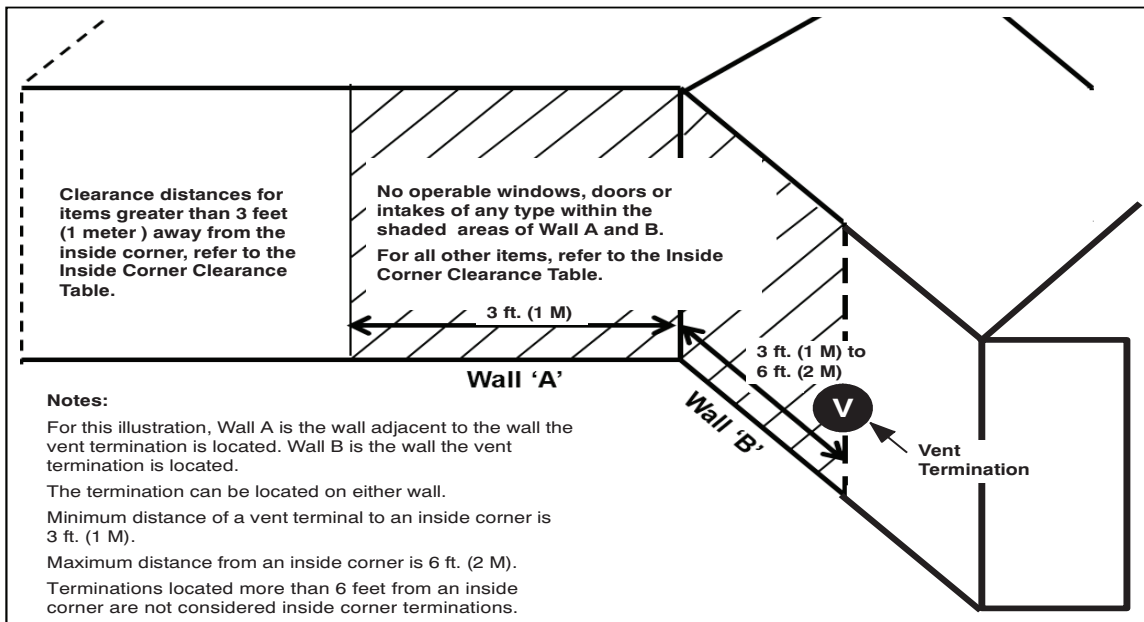

Fig. 46 – Inside Corner Termination
2. The vent termination must be located at least 3 feet from an inside corner and follow the clearance distances in the Inside Corner Termination drawing. See Fig. 46.